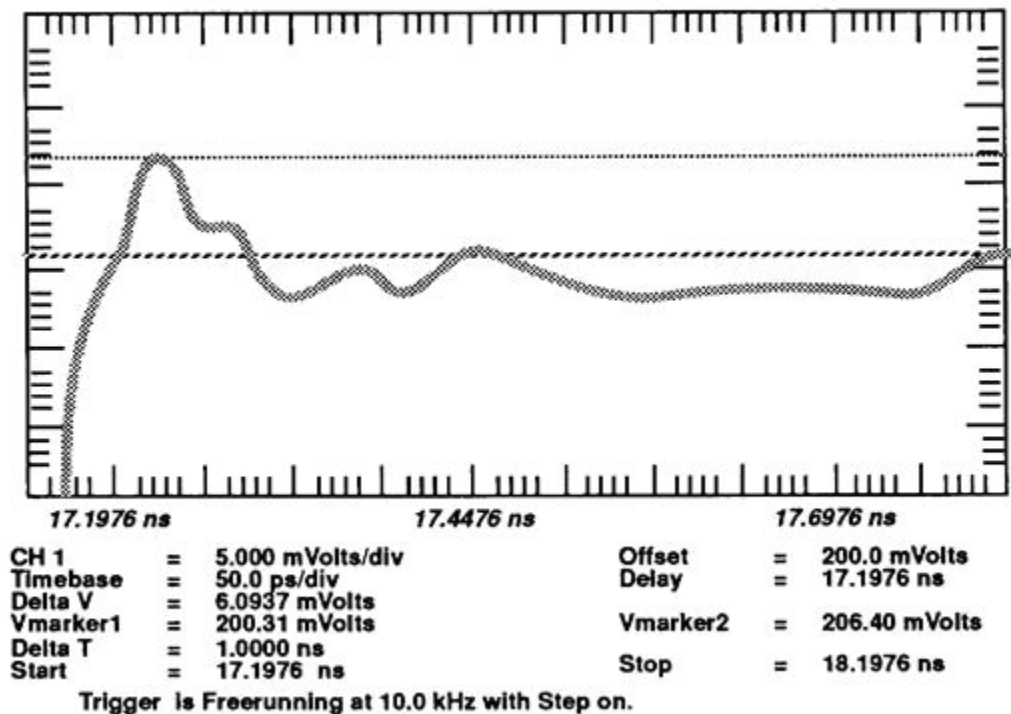

Figure 21. Overshoot fine adjustments.
- ah. Slowly adjust the **TDR DRIVE** on horizontal assembly A1 (fig. 11) until the peak of the overshoot coincides with the **MARKER2** position (fig. 21). If the overshoot moves off the display, reposition the waveform with **Delay**. If this adjustment fails, repeat the **TOP** and **BOTTOM** (fig. 11) adjustments.